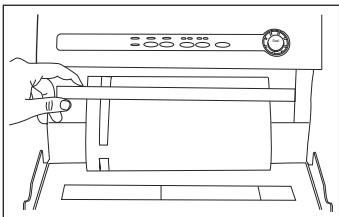

Figure 5
1. Open appliance door and place roll into Built-in Roll Holder. (See Figure 5) For best results, insert roll with material flap down.
2. Lift up Roll Cutter Bar and place bag material beneath the cutter bar. (See Figure 5)